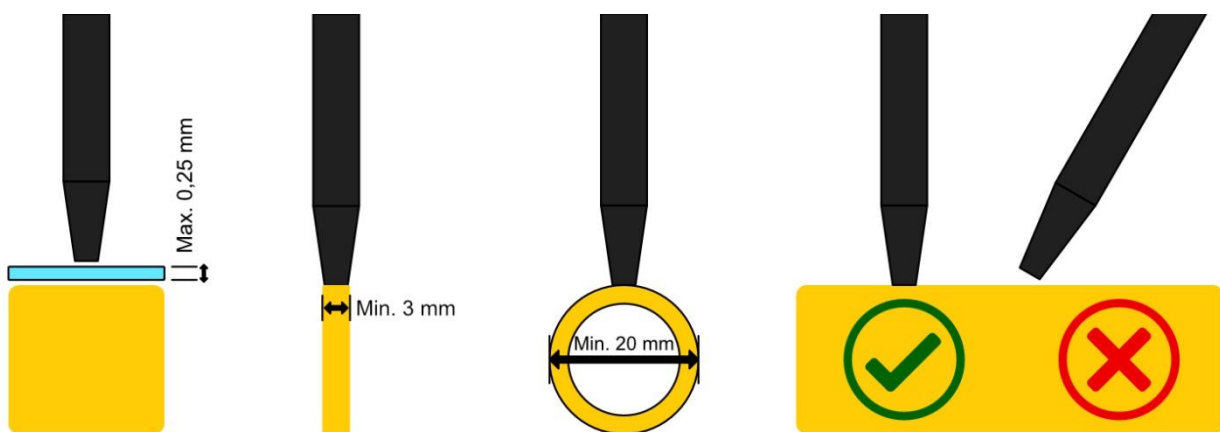

Figure 2 – Advice for the correct tip position
Please hold the pen's tip perpendicular to the surface of your testing object in order to achieve accurate results (see Figure 2). Please do not push the tip too powerful on the surface or on sharp-edged mintages because of potential damage or destruction of the tip's spool. Using gentle pressure like writing with a pen is totally sufficient. The device performs two measurements per second giving the resulting conductance with an accuracy of one decimal (3). Due to the measuring interval and the user-related change of the position of the tip during the measurement the given conductance value will not remain constant.
Conditions for optimal results (see Figure 2):